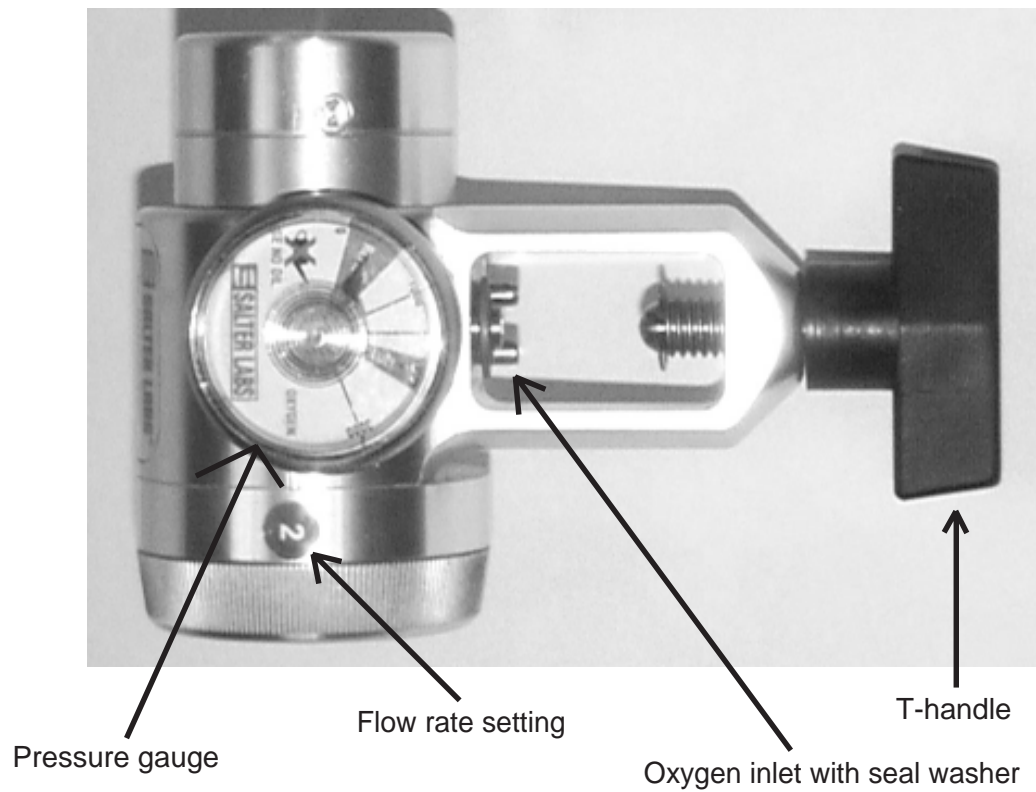

Figure 1
3. Check the conserver to ensure the inlet seal washer at the oxygen inlet is in place and in good condition. Replace a dirty or worn washer with a new Viton rubber/brass washer. Check that the inlet is clean and free of debris (Figure 1).